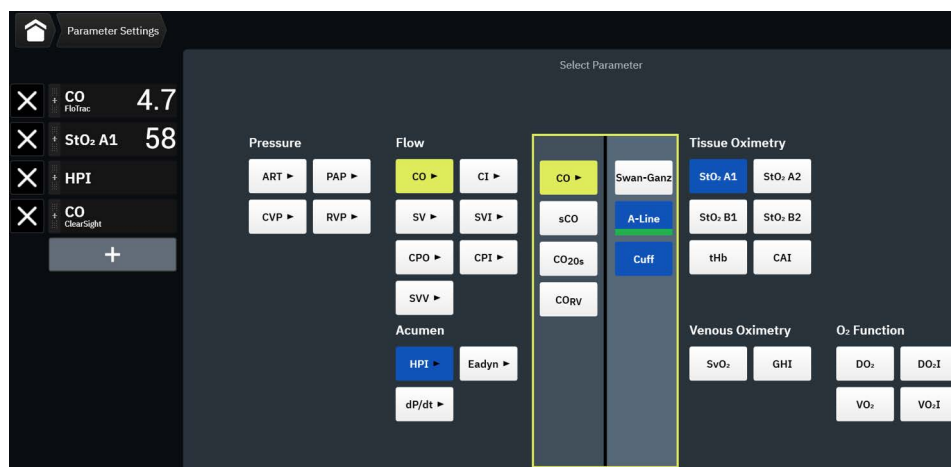

Figure 4-5 Example of key parameter selection tile configuration menu
- 3 The parameter selection menu shows all selected key parameters highlighted in blue color. The currently selected parameter is highlighted in yellow. Available parameters appear on the screen without highlights. For those parameters that can be sourced from multiple technologies, such as CO, the available connected sensors appear with a green bar. Figure 4-5 shows the parameter selection menu while monitoring with all available technologies in Multi-Sensor mode. The appearance of this window while monitoring with other HemoSphere Alta™ Advanced Monitoring Platform configurations can vary from what is shown in figure 4-5. Parameters are further organized into categories within the selected technology. Categories, listed below, are grouped together on the parameter selection configuration menu. See figure 4-5.